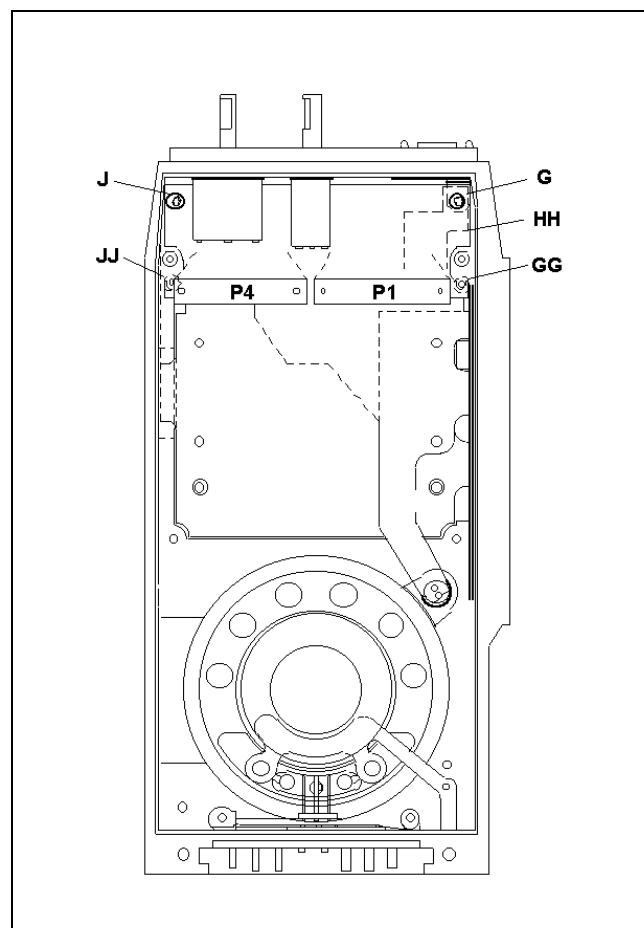

Figure 10 - Keypad Flex And LCD Board Access
To remove the Keypad Flex, first remove the UDC Flex/UDC/Monitor Button/PTT Switch assembly as previously stated. Next remove the knobs using the hex driver. Unscrew the two (2) screws securing the top panel and lift and remove the panel. Lift the Emergency Button Board by carefully unplugging J6 from P6. With a spanner wrench, remove the nuts securing the volume and channel controls and carefully slide the controls inside the radio. Unscrew the two (2) screws (G and GG) and remove the J10/P10 Zebra strip securing plate (HH). See Figure 10. The Keypad Flex is now free for removal.
After the top areas of the Keypad Flex have been freed as previously outlined, the LCD Board can be removed. At this point in the disassembly process an earlier Front Cover Assembly has two (2) screws on the left side as view from the back (**J** and **JJ**) and a later assembly has a single screw in the upper left-hand side (**J**). See Figure 10.